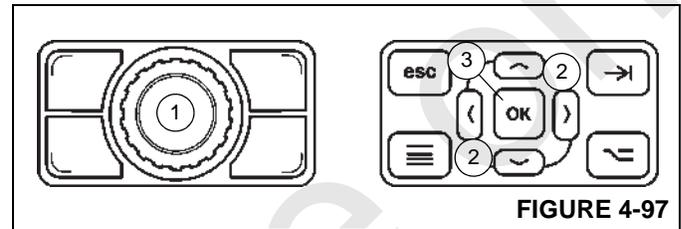
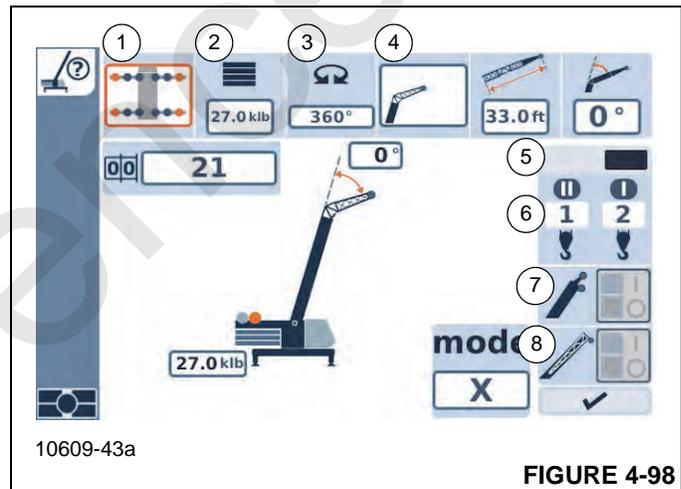

FIGURE 4-97
FIGURE 4-98
Rotate the Jog dial (1, Figure 4-97) or push the arrow buttons (2) at the RDM Navigation Control Pad until the desired configuration component is selected (becomes orange) (1 to 8, Figure 4-98).
- Once selected, go in to the Input Mode by pressing the Jog Dial (1, Figure 4-97) or the OK button (3) at the RDM Navigation Control Pad.
- Rotate the Jog dial (1, Figure 4-97) or press the arrow buttons (2) at the RDM Navigation Control Pad until the desired reeving value is selected.
- Confirm the selection by pressing the Jog Dial (1, Figure 4-97) or the OK button (3) at the RDM Navigation Control Pad.